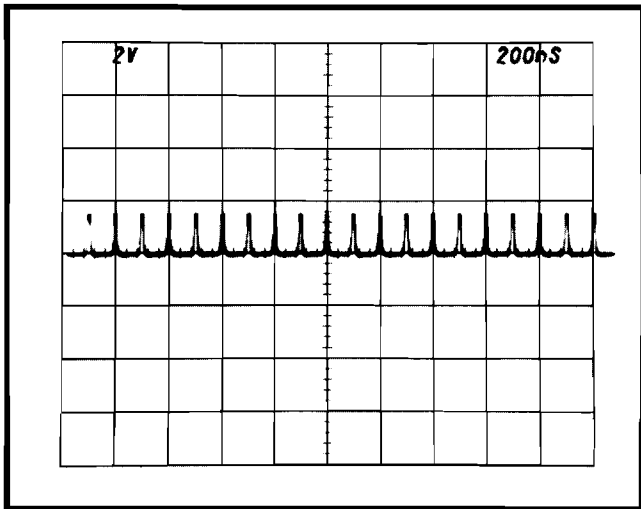

Fig. 5-9. CRT display showing correct 0.2 μs timing.
- c. CHECK—CRT display for two markers each division over the center eight divisions. Check that sweep timing is within 0.16 division (2%) over center eight divisions. See Fig. 5-9.